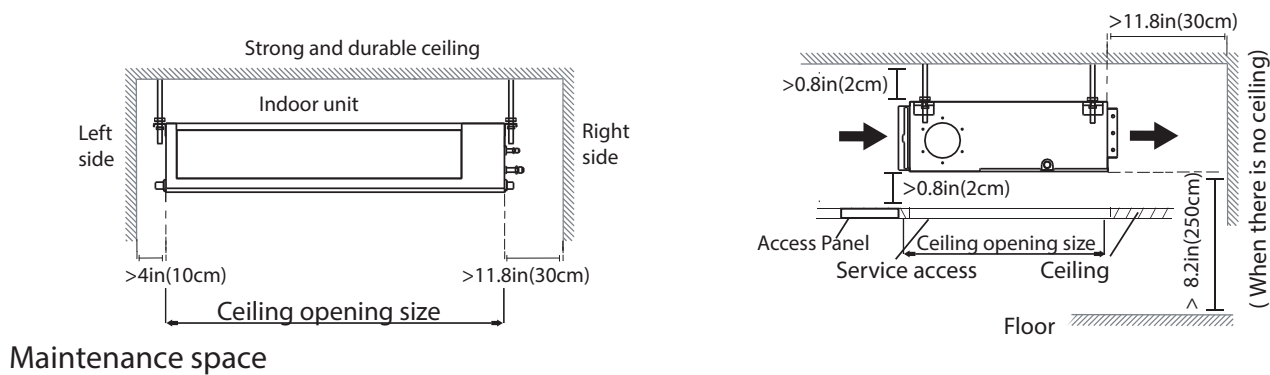

Fig. 7 — Installation Clearances
- Allow sufficient space for airflow and unit servicing. See Fig. 7 — on page 7 for the minimum required distances between the unit and the walls or ceilings.